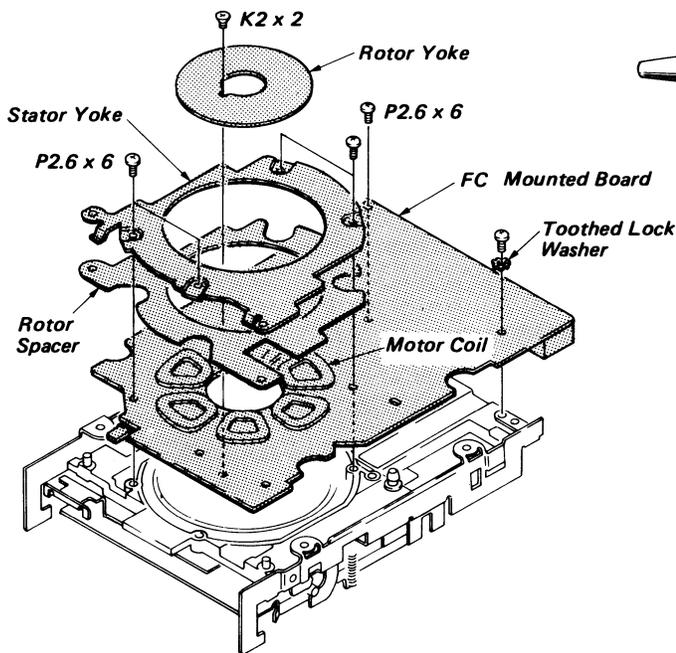

Fig. 4-3 FC Mounted Board Replacement
- Install the Stator Yoke and Rotor Spacer with four screws (P2.6x6). (Refer to Fig. 4-3)
- Be careful not to damage to six disk motor coils for disk motor, while installing the Rotor Yoke with a screw (K2x2). (Refer to Fig. 4-3)